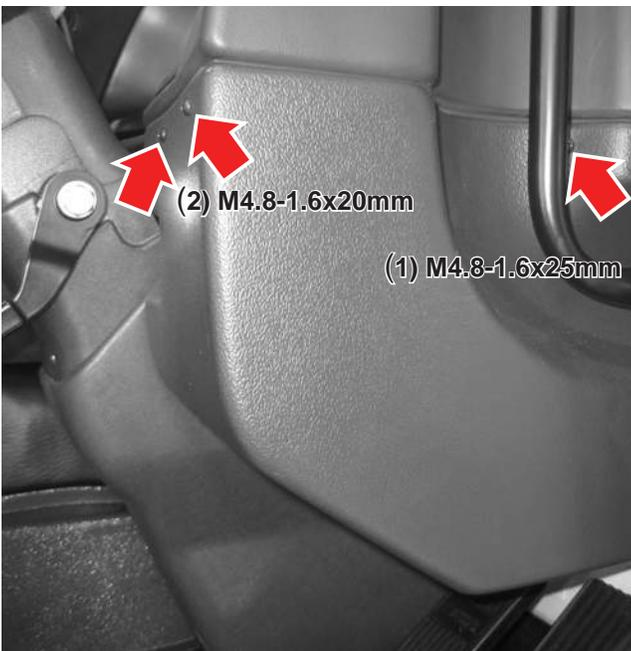

Figure 24-1
1. Align the new lower RH instrument panel trim panel (A5700043-001) with mounting spring nuts on the upper instrument panel (see *Figure 24-1*).
2. Reinstall the three sheet metal screws, ensuring they are driven through the spring nuts (see *Figure 24-1*).